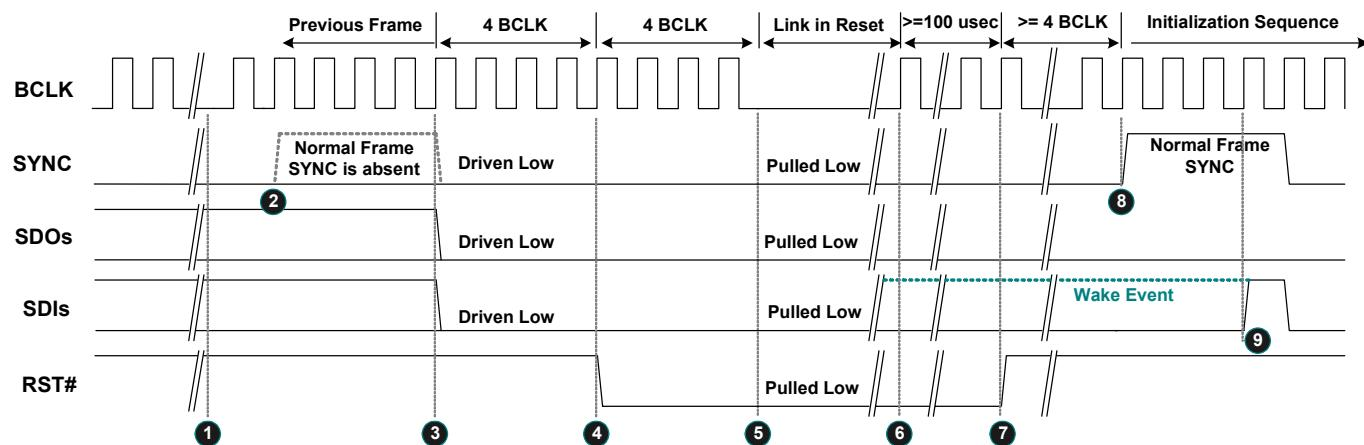

Figure 13. Link Reset Timing
3. Software initiates power management sequences. Figure 13, page 19, shows the ‘Link Reset’ timing including the ‘Enter’ sequence (❶~❽) and ‘Exit’ sequence (❾~❿)